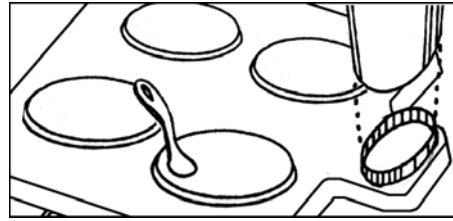
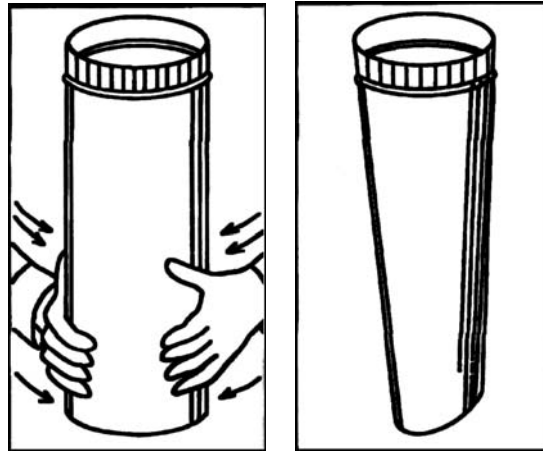
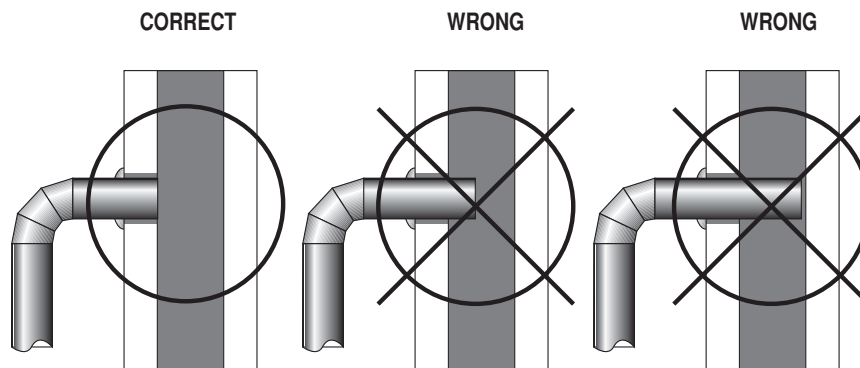

Fig. 5 – Flue Outlet Collar
Fig. 6 – Hand-form pipe to oval shape – Fig. 7
Fig. 8 – Stovepipe/Flue Connections
1. The stove must be placed on solid concrete, solid masonry, or when installed on a combustible floor a solid surface floor protector listed to UL1618 Type 2 with a minimum of 1" thick and a R-value of 3.0 or greater, such as Hy-C or Imperial Model UL 5460BK must be used. (NOTE: To calculate R-values of equivalent alternative materials, see page 15). The base must extend at least 18" beyond the front, rear and sides of the stove, and **must** extend underneath and 2" beyond each side of horizontal connector pipe if it is elbowed towards a wall (see figure 5 and consult local building codes and fire protection ordinances.)
- The smooth end of the stovepipe fits over the cast iron flue collar at top rear of stove (fig. 5).
- Hand form lower end (fig. 6) of stove pipe to oval shape (fig. 7) and slide over flue outlet collar as shown in figure 5.
- Secure stove pipe to flue collar with at least three (3) sheet metal screws and seal with stove cement.
- The pipe cannot extend into the chimney flue (figure 8).
- Secure pipe/elbow sections with three (3) sheet metal screws at each joint to make the piping rigid. Screws may be no more than a maximum of 3"/76mm apart.
- It is recommended that no more than two (2) 90 degree bends be used in the stovepipe installation. The use of more than two 90 degree bends may decrease the amount of draw and possibly cause smoke spillage. Where possible, use only corrugated (nonadjustable) elbows. These provide a better seal.
2. Install a metal or fire clay (5/8" minimum thickness) thimble. Make sure the thimble is flush with the inner surface of the chimney liner and does not protrude into the flue (see figure 8 on page 6).
4. Install the stovepipe into the thimble as far as possible without extending past the flue lining (see figures 8 & 9 on pages 6 & 7).